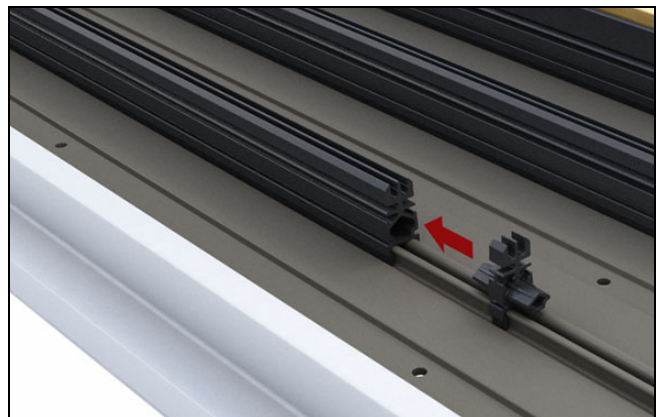

Figure 20
2. Insert frame connector splice key into the frame connector(s). See figure 20.